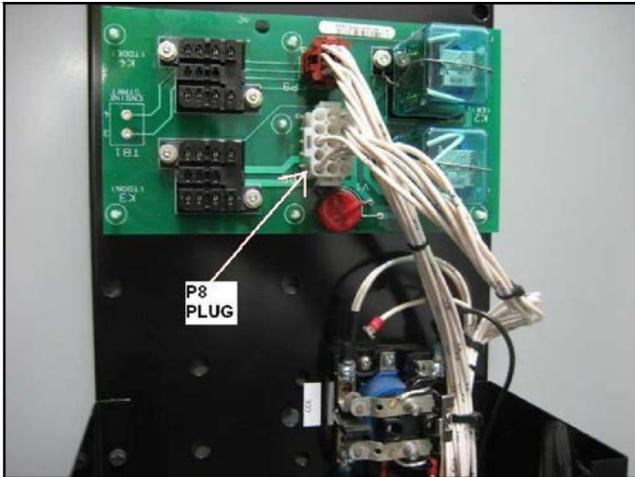

Figure 42 Disconnect Plug P8
36. Disconnect plug P8 from the upper board. See Figure 42.